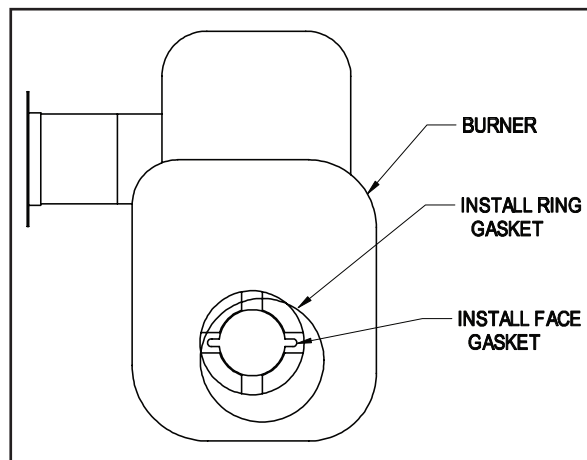
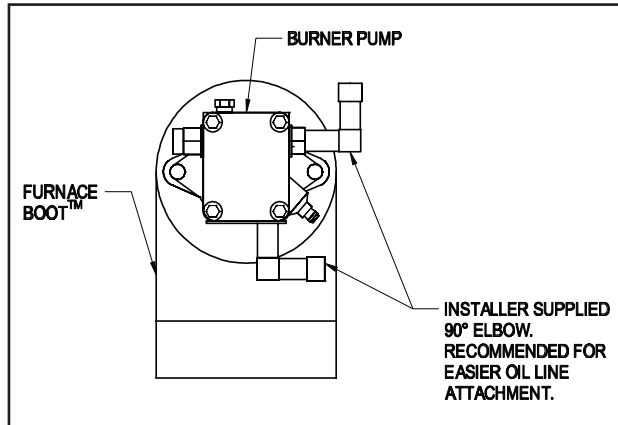
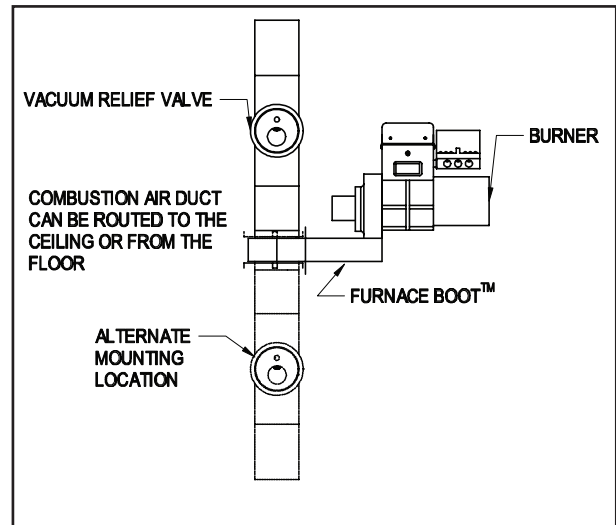

Figure 2
Figure 3
Figure 4
2. Remove the oil pump and air bands from the burner housing! Install the sealing gaskets onto the burner housing. (See Figure 2) Replace existing pump coupling with the coupling supplied with the Furnace Boot™. Position the Furnace Boot™ over intake on the burner housing. Align the holes in the Furnace Boot™ with the holes in the housing and re-attach the oil pump. (See Figure 3) NOTE: Replace pump coupling with the coupling supplied with kit. The Furnace Boot™ extension is mounted from the outside of the furnace cabinet and can be mounted to allow the routing of the duct pipe from the ceiling or from the floor. (See Figure 4) Assemble VRV balance weight onto the gate. Screw the weight all the way in. Then attach lock nut and knurl nut. (See Figure 4)
4. Mount VRV tee assembly or 90° elbow onto the Furnace Boot™ intake. Fasten using three (3) sheet metal screws on all joints. (See Figure 4)